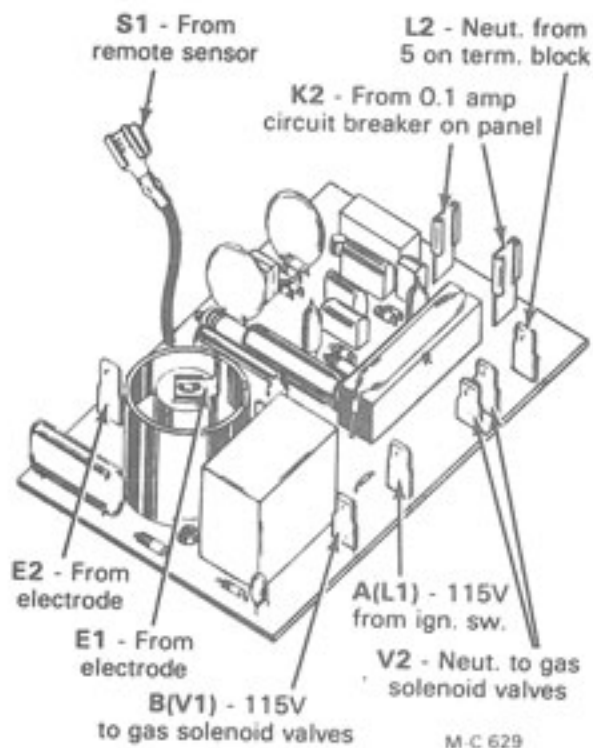

Figure 38 - Ignition Board
7. **LP Gas** - Remove the plug at the end of each strainer, see Figure 38. Remove and clean the screen in each strainer. Check flexible LP